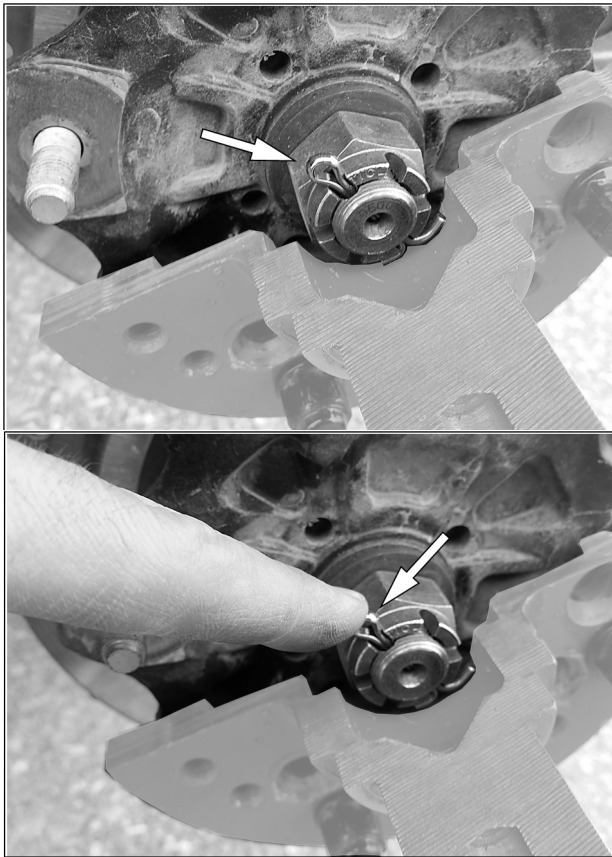

Fig. 8
- Modify position of cotter pin to avoid interference with track system hub during installation. There must not be any resistance when track system is installed on vehicle's wheel hub. See Fig. 8